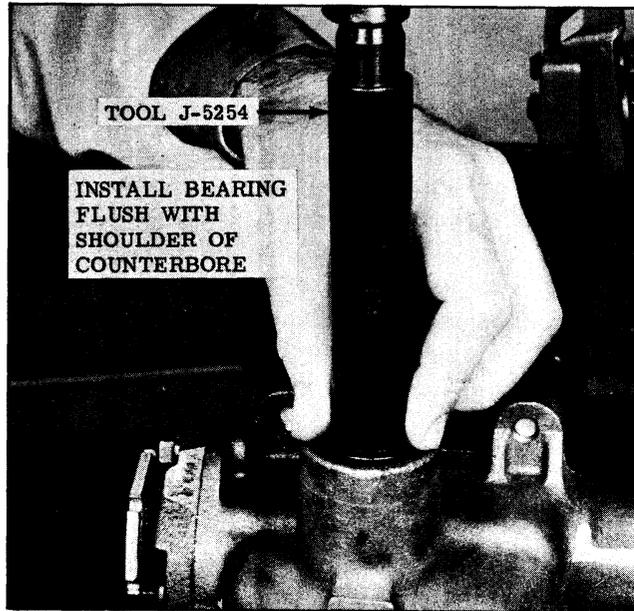

Fig. 5-11 Installing Bearing In Housing
- Install needle bearing in housing so that it is flush with shoulder of counterbore as shown in Figs. 5-11 and 5-12.